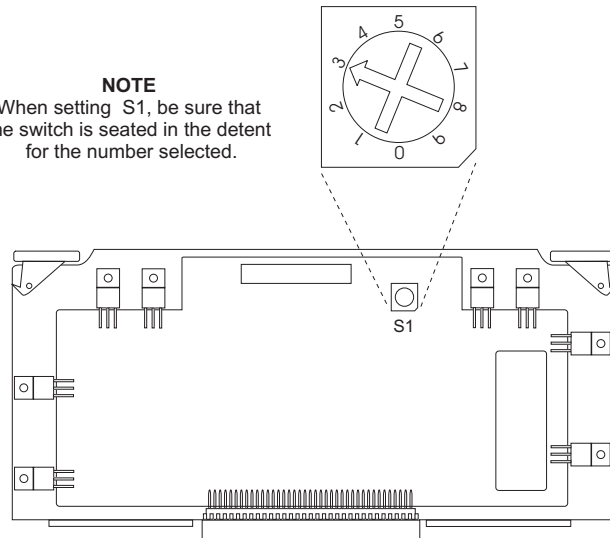

Figure 6-4. Switch S1 Location on the A14 PCB
- Step 6** Set switch S1 (Figure 6-4) to the correct setting for the 68XXXC model in which the A14 PCB is being installed (see Table 6-1).